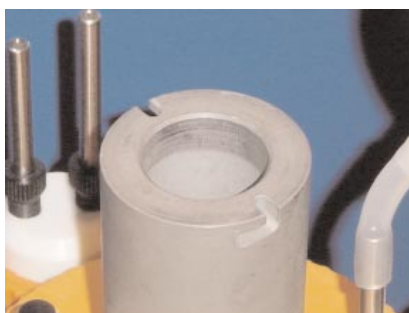

Figure 21. Engagemnet slots for bayonet fittings
Step 2 (Figures 21 and 22)
Note the location of the two engagement slots for the bayonet fittings (see Fig. 17, *Dowel Pins*, $\frac{1}{8}$ " \times 1") on the top of the drive shaft (Fig. 21). The dowel pins on the bottom of the *Direct Drive Motor* (Fig. 22) will slide into these slots to secure the motor in place for operation.